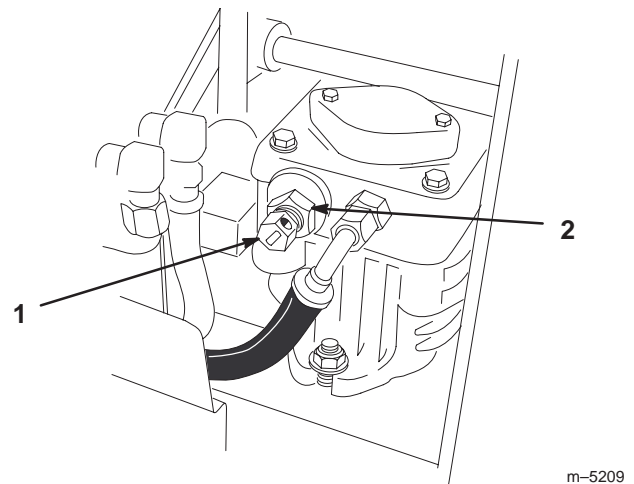

Figure 35
1. Loosen large jam nut several turns (Fig. 35).
2. Gently close by-pass valve (Fig. 35).
3. Open by-pass valve 1/2 turn (Fig. 35).
4. Tighten jam nut to lock the adjustment (Fig. 35).